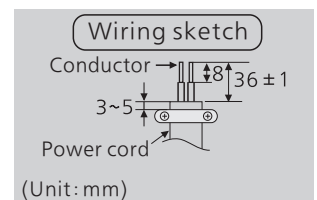

Figure 1
- ⚠ For the stripping length, please prepare according to the wiring sketch (refer to figure 1). If the stripping length is too long, a short circuit or fire may be caused.